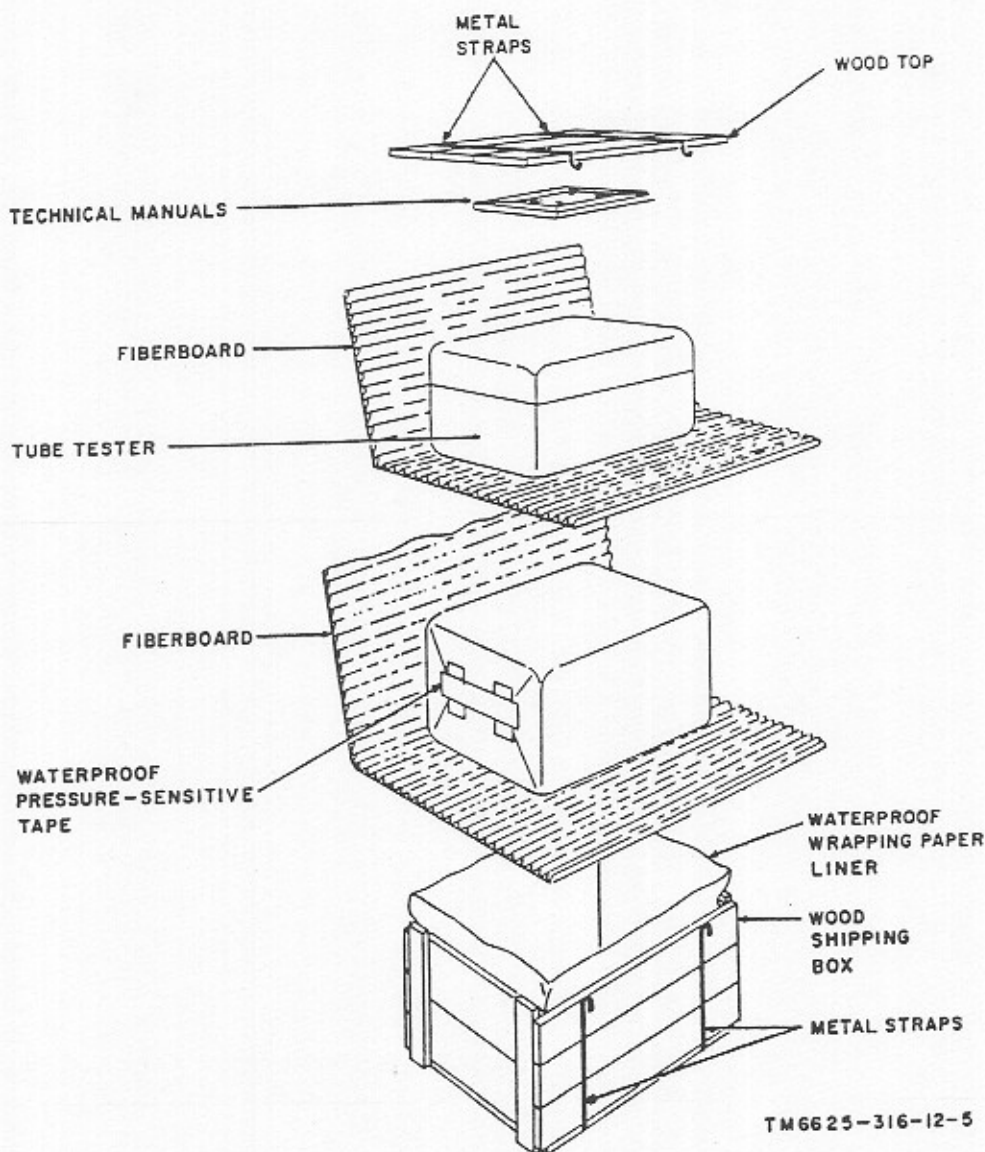

Figure 11. Field repackaging diagram.
47. Repackaging for Shipment or Limited Storage (fig. 11)